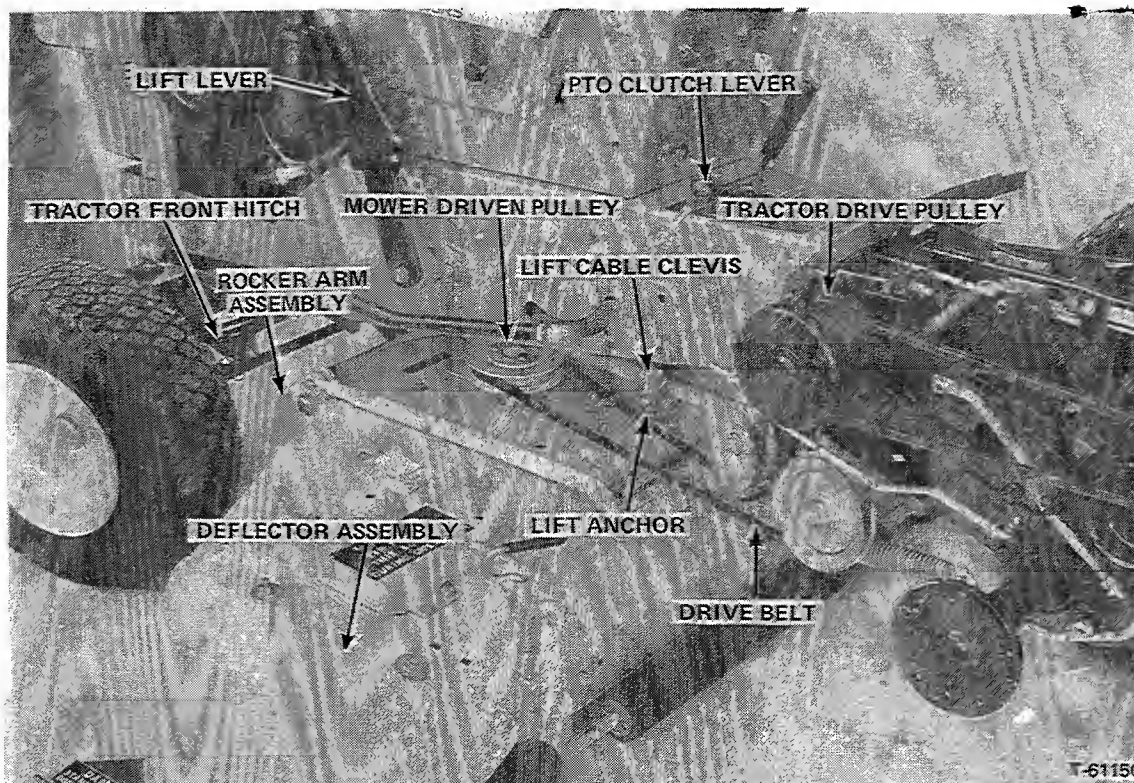
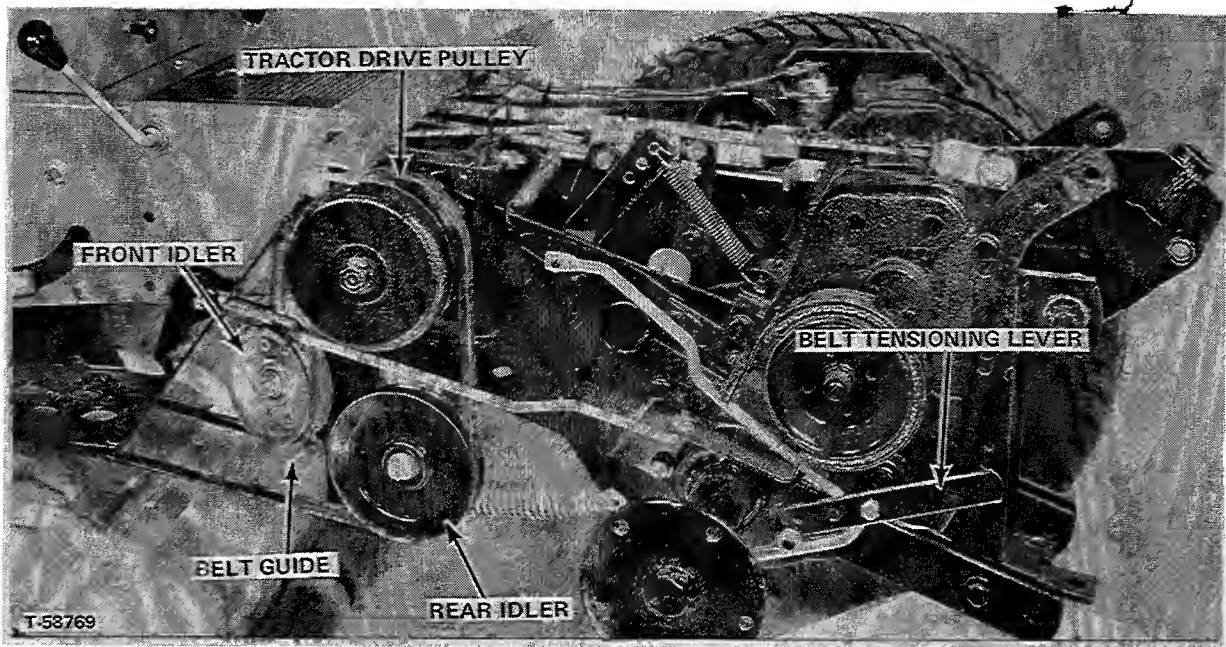

FIGURE 7.- 42" Mower on 712-S Tractor (Seat Deck, L.H. Foot Rest and L.H. Wheel Removed for Visibility)
FIGURE 8 - (Seat Deck and L.H. Rear Wheel Removed)
1. Park the tractor on level ground with the mower positioned on left hand side. Turn the front wheels fully away from the mower to give clear access to the tractor side. Slide the mower underneath the tractor, then straighten the front wheels. Move the lift lever forward and attach the lift cable clevis to the lift anchor on the top of mower with pin and lock pin (Figure 7).
2. Partially raise the mower lift and attach the mower rocker arm assembly to the holes in tractor front hitch using round head pins and lock pins (Figure 7).
3. Disengage the tractor power take off lever. Push the belt tensioning lever, (Figure 8) all the way down. Loosen the bolt that holds the belt guide on the front idler. Place the mower drive belt over the mower driven pulley, the tractor drive pulley and the front and rear idlers as shown in Figures 7 and 8. Make sure that flat top of the belt contacts the front idler. Locate belt guide as shown and tighten bolt. Raise belt tensioning lever to tighten belt.
2. Disengage the P.T.O. lever and lower the belt tensioning lever (Figures 7 and 8). Loosen the bolt that holds the belt guide to the front idler and remove the drive belt from the tractor drive pulley and idlers and from the mower driven pulley.